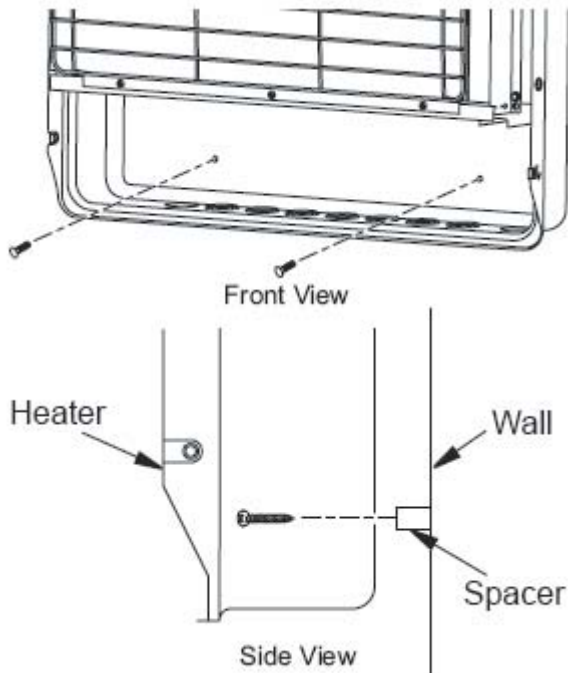

Figure 11-Installing Bottom Mounting Screws
1. Locate two bottom mounting holes. These holes are near bottom on back panel of heater (see Figure 11).